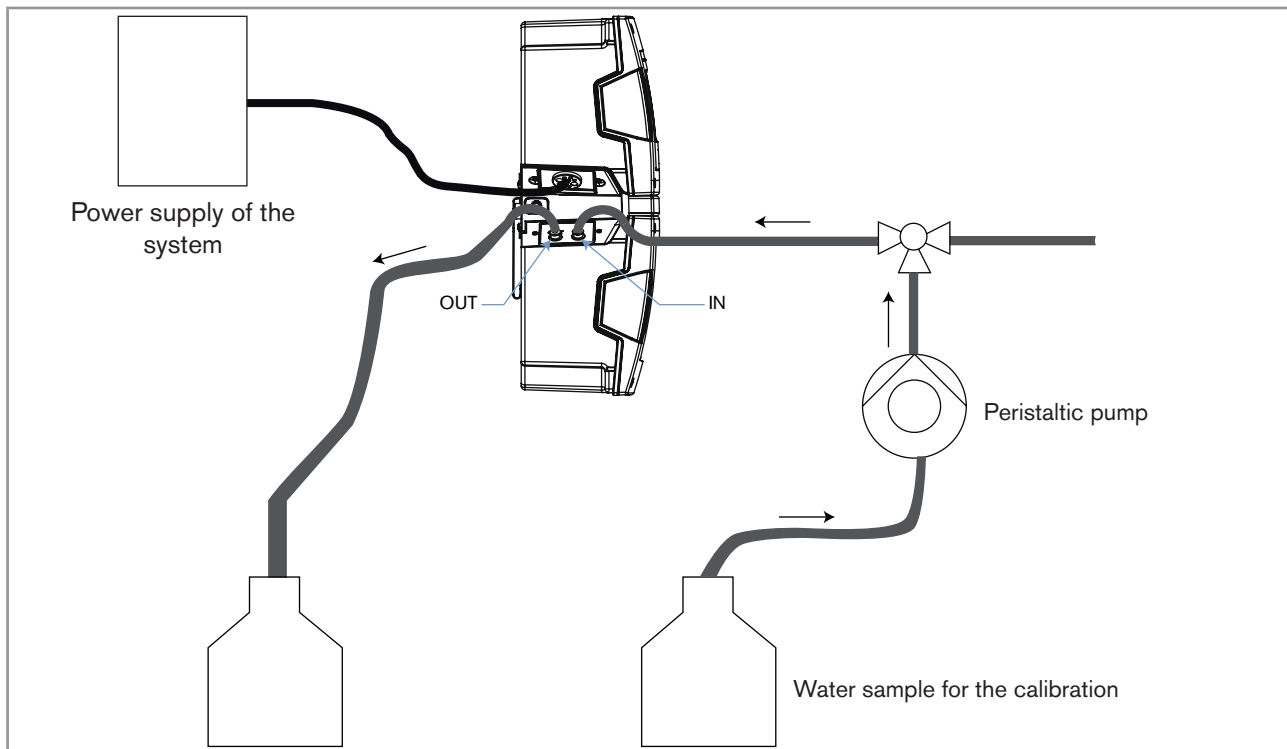

Fig. 4: Installation for the calibration of the product in a system type 8905
1. Connect a peristaltic pump in the water sample inlet circuit of the system, as shown in Fig. 4. If the fluidic connections are not done correctly, the product and the system can be damaged because the pressure in the product and in the system is too high.
1. Connect a peristaltic pump in the water sample inlet circuit of the system, as shown in Fig. 4, chap. 8.10.3. If the fluidic connections are not done correctly, the product and the system can be damaged because the pressure in the product and in the system is too high.